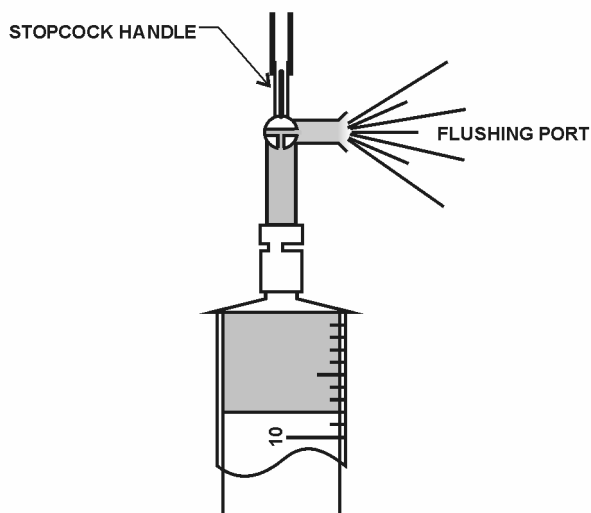

Figure 60 – Sample Syringe Bubble Removal.
- ◆ Hold the syringe vertical and turn the stopcock up so that the handle points away from the syringe. Press the syringe piston to eject any air bubbles, but leave 1 or 2 cc of oil in the syringe. See figure 60.